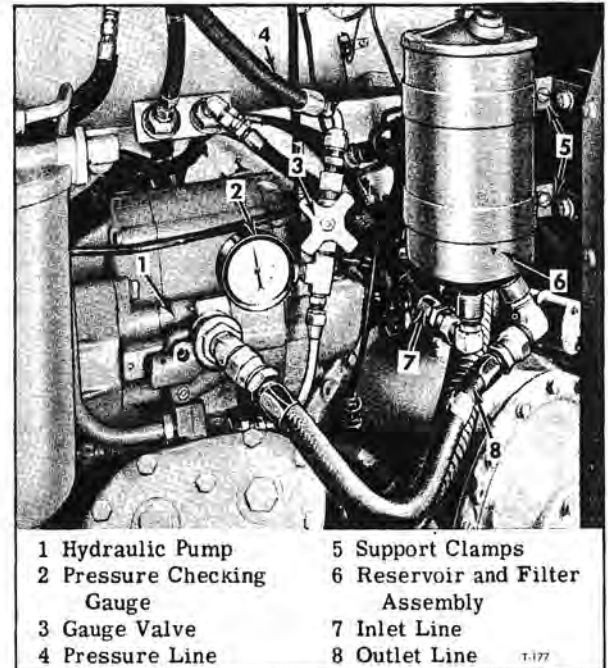

Figure 4—Checking Pump Hydraulic Pressure
2. Connect 0 to 1000 psi pressure checking gauge (J-5631-01) (fig. 4) between the pump pressure port and pressure hose. Leave valve in pressure gauge open.